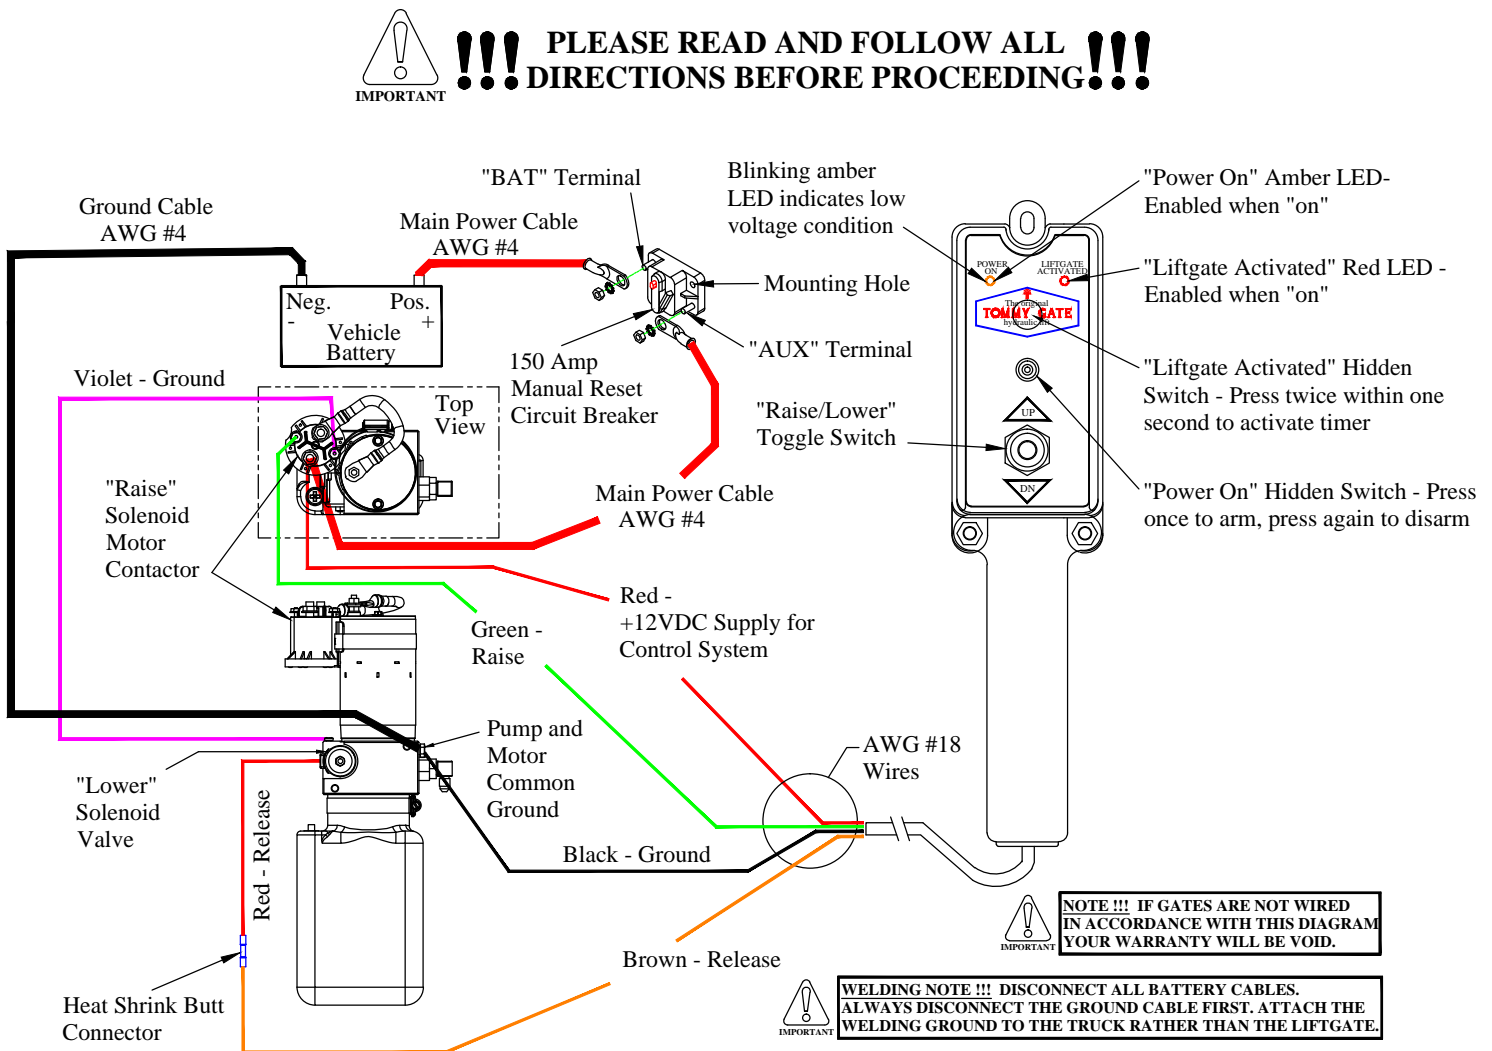

Figure 17: Wiring Diagram.
15. Connect the circuit breaker and battery as outlined in the *Tommy Gate Recommended Electrical Wiring Guidelines* and wiring diagram (Figure 17).
16. Push the hidden "Power On" switch (Figure 17). The amber "Power On" LED will illuminate.